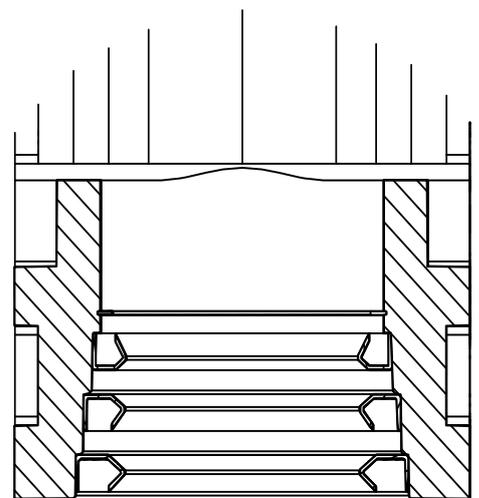

Fig. 13.11
- Install lipseals (P208), (P209) & (P210) into the bores in the top housing in the orientation shown in Fig. 13.11.